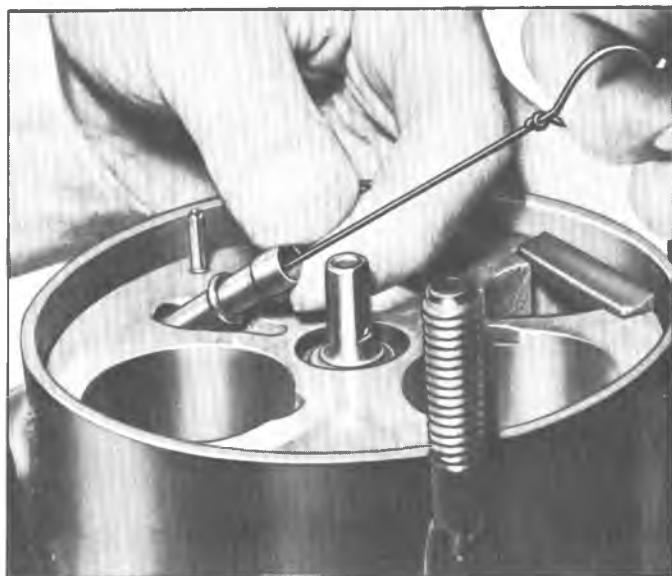

Fig. 16-Removing Oil Inlet Tube and "O" Ring
2. Remove the oil inlet tube and "O" ring with Tool J-5139 as shown in Figure 16.